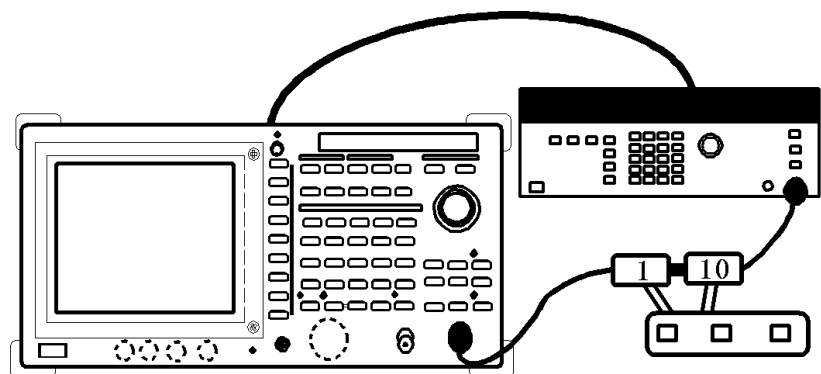

Figure 1-5 Setup for Measuring a IF Gain Uncertainty
1. Connect the signal generator and step attenuator as shown in Figure 1-5.